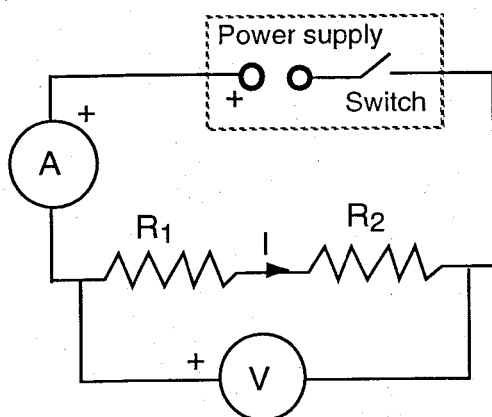
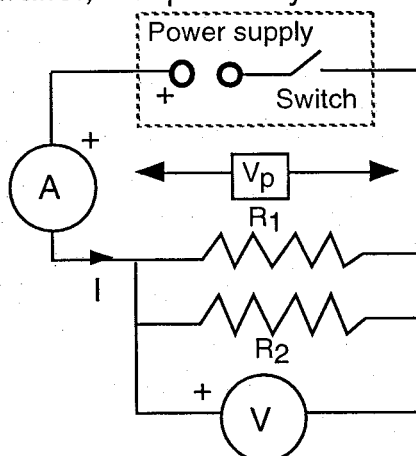

Figure 2
Figure 3
When two (or more) resistors are connected in series as shown in Fig. 2, their equivalent resistance is given by
When two (or more) resistors are connected in parallel as shown in Fig. 3, their equivalent resistance is given by
In the case of a parallel combination, the potential difference across the resistors is the same, while the currents in the resistors are not equal unless the resistors have the same resistance. In any case, the sum of currents in the resistors R_1 and R_2 is equal to the total current I which is measured by the ammeter (Fig. 3).
4. Choose 2 resistors and determine their individual resistances. Connect them in series (Fig. 2) and determine the series resistance. Then connect them in parallel (Fig. 3) and determine the parallel resistance. The units of voltage, current and resistance are volt, ampere and ohm, respectively.